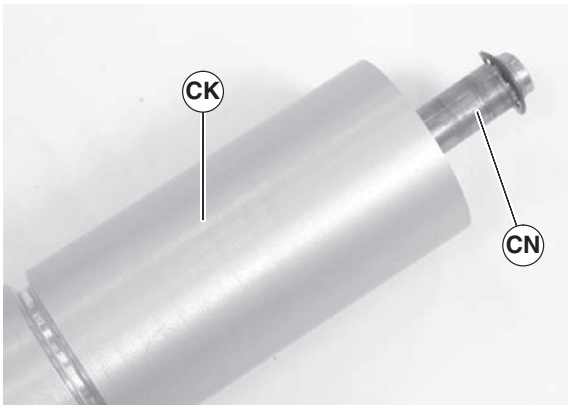

Figure 65
6. Slide the shaft assembly (Figure 65, item CN) out of the pulley (CK).
- Slide the shaft assembly (Figure 65, item CN) out of the pulley (CW).